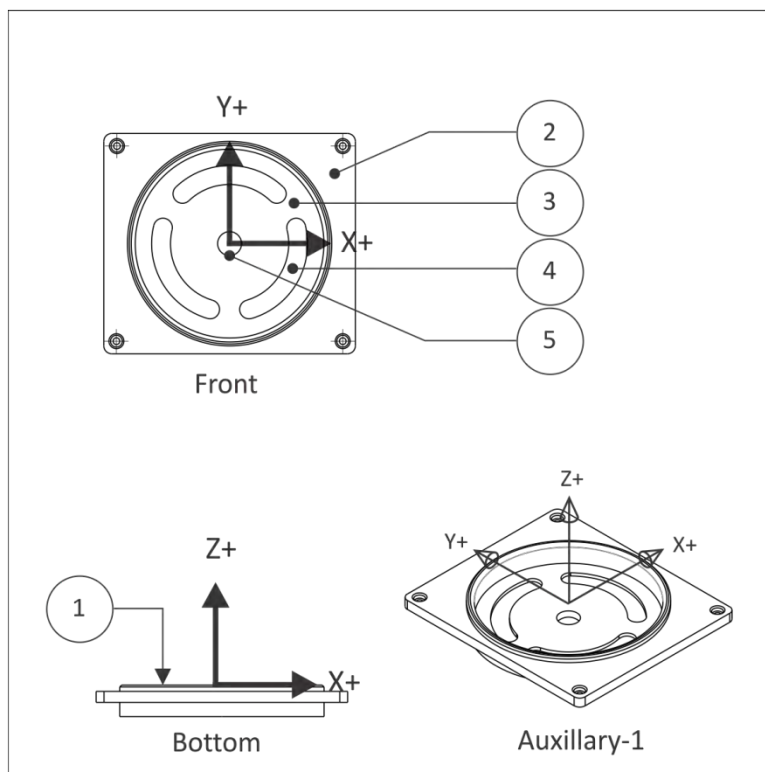
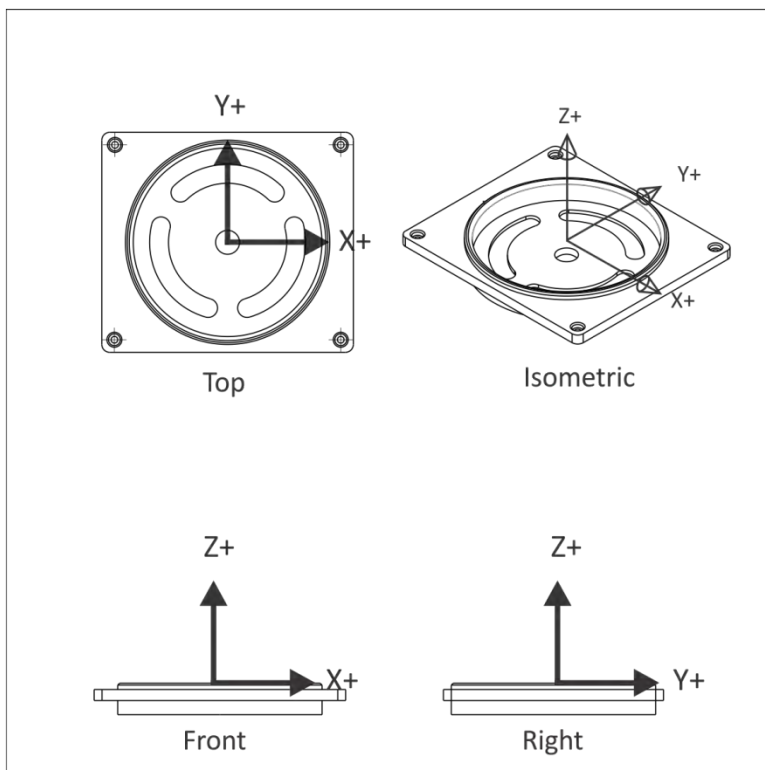

Figure 1: Prismatic Part (Orientation in CAD)
Figure 2: Prismatic Part (Orientation in CAM)
Figure 1 shows a prismatic part. All machined features lie parallel to the XY plane. Each Z-level can be machined by positioning the tool at a fixed Z-level and then moving the XY axes to remove material. machining. Every feature can be reached with the tool approaching either from the Front or Bottom views. There are several cutting planes in this example, including the model top (1), top of the face where the holes start (2), the bottom of the pocket (3) where the slots begin, the bottom of the slots (4), and the bottom of the hole through the center (5).
Figure 1 shows the part oriented as it is modeled in the mechanical CAD software. For CAM, it is helpful to display the part in the same orientation as viewed while sitting on the CNC machine. For a Vertical Machining Center (VMC) this requires updating standard views to look like those shown in Figure 2. The G-code file is generated in relation to the Work Coordinate System (WCS), so changing views is not required for CNC programming. It simply helps visualize CNC machining processes when using CAM.
In SolidWorks to switch views from CAD space (Figure 1) to CAM space (Figure 2) to the following:
1. Open the **View Orientation** dialog and select **Front** (view) so the part displays as shown in Figure 1.